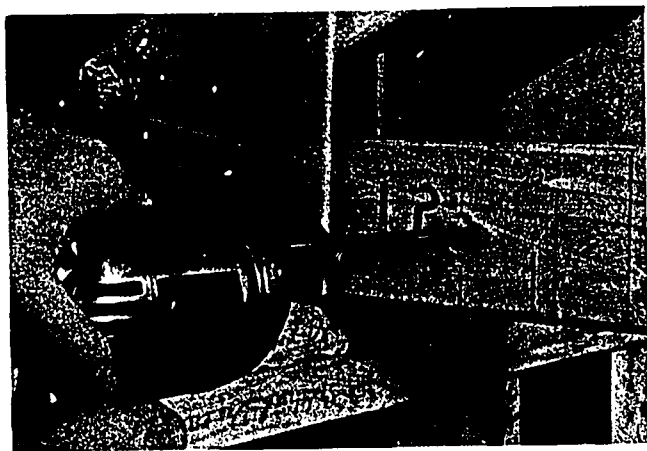

Fig. 52-4. Drilling Hole with Speed Bit in Electric Drill
3. Drill holes, A, B, C, and D. Figure 52-4 shows proper use of a speed bit in an electric drill.